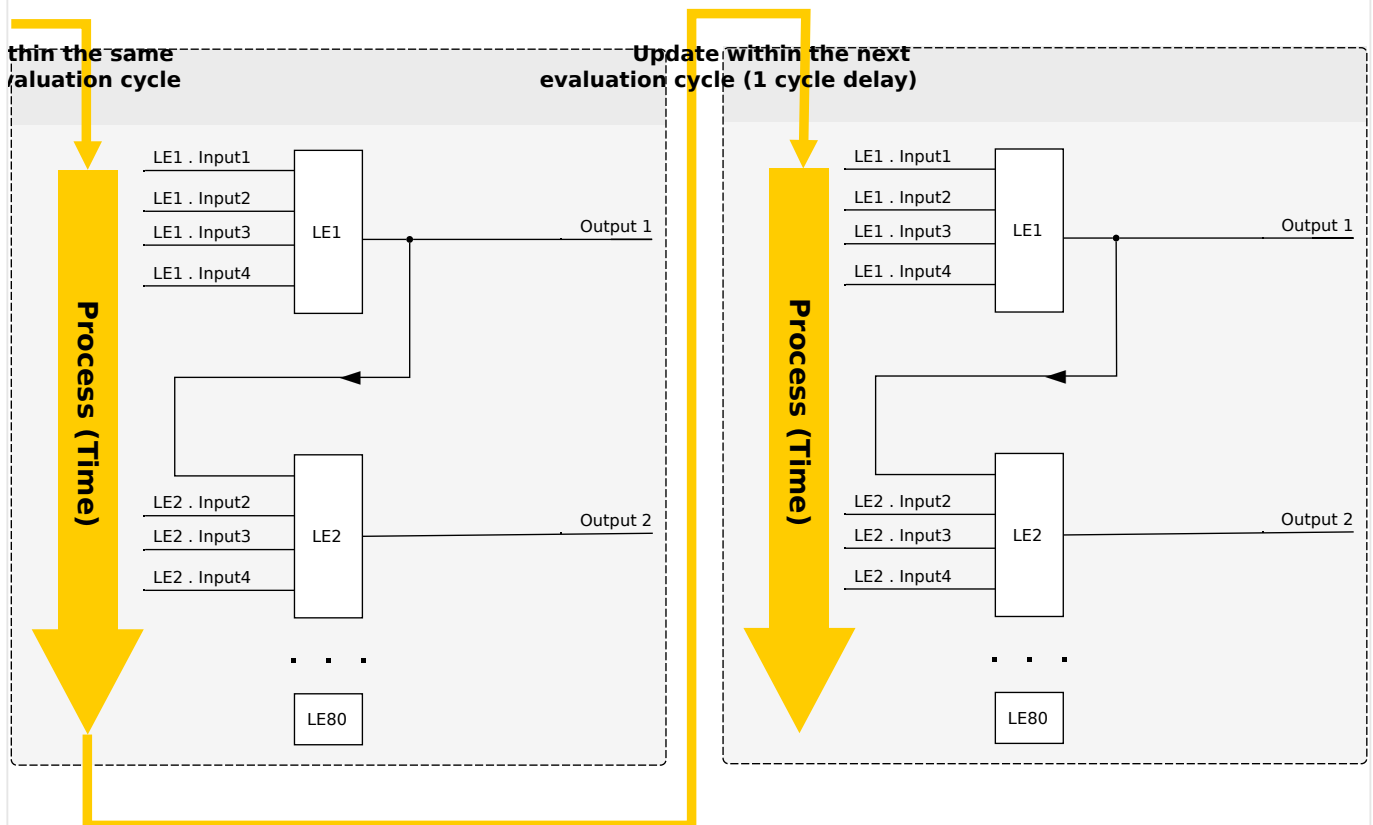
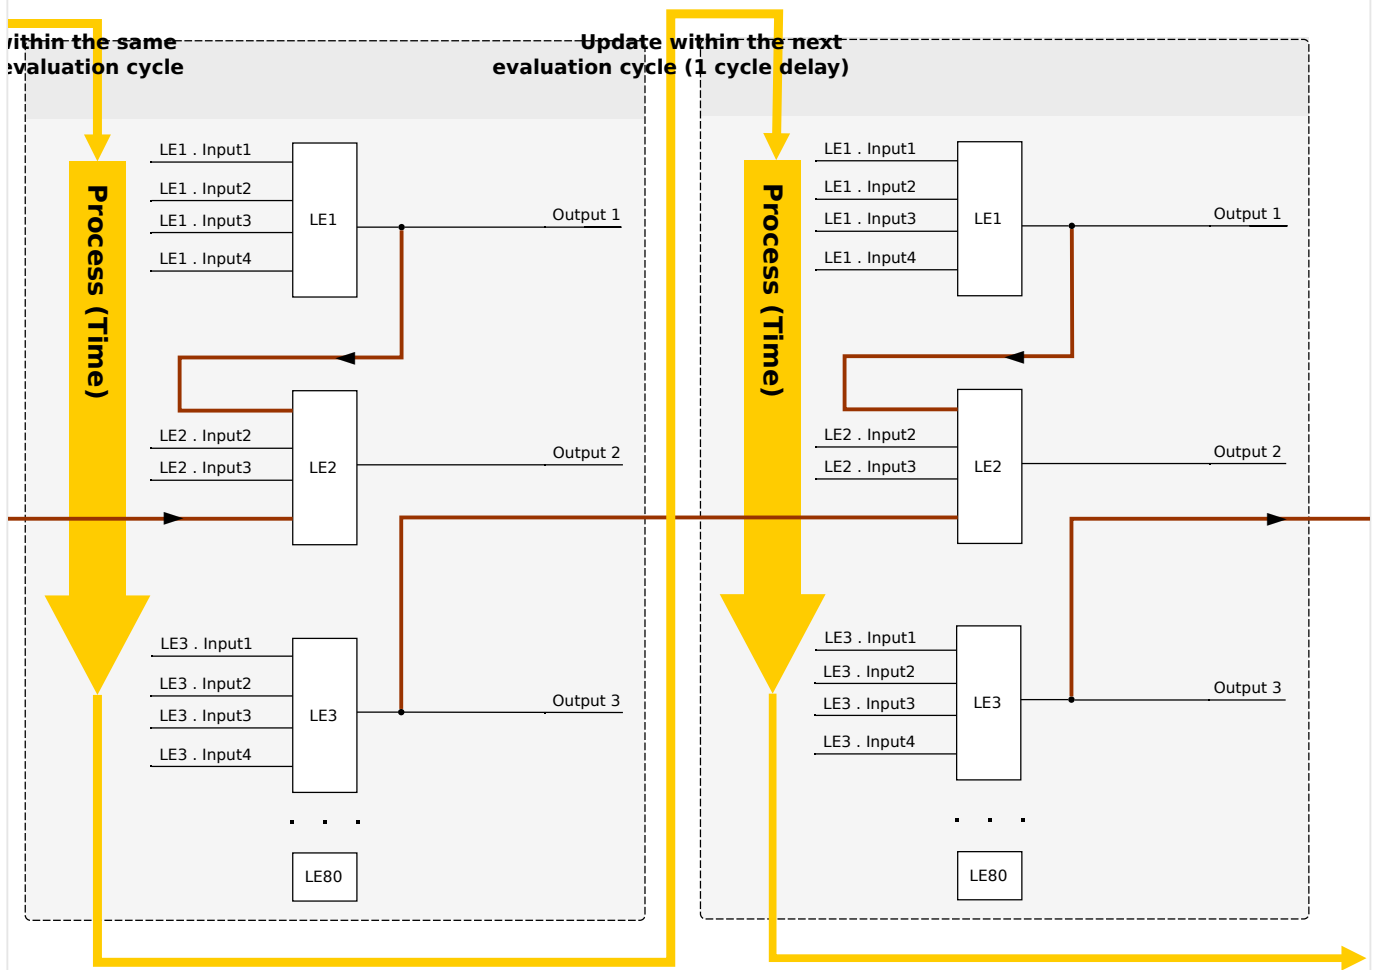

Fig. 115: Cascading in Ascending Order.
Fig. 116: Cascading in Descending Order.
- **Ascending** sequence means that some output is fed into the input of a logic equation with **higher** number. For instance, diagram →Fig. 115 below shows an example where the result of Logic Equation LE1 is used as an input of Logic Equation LE2.
- **Descending** sequence means that some output is fed into the input of a logic equation with **lower** number. For instance, diagram →Fig. 116 shows an example where the result of Logic Equation LE3 is used as an input of Logic Equation LE2.
Both ascending and descending sequences may be used and combined one with the other, with no immediate difference. However, due to the evaluation of all equations in ascending order the actual run-time values that are fed in at the input of an equation will have a different “age”, as is shown in →Fig. 115 and →Fig. 116 below.
In the example shown in Fig. 116 above, “Logic Equation 2” uses the output states of two other equations, “Logic Equation 1” and “Logic Equation 3”. The result of “Logic Equation 1” is used in ascending order and has therefore been evaluated within the same process cycle. The result of “Logic Equation 3” is used in descending order and has therefore been evaluated in the previous process cycle.